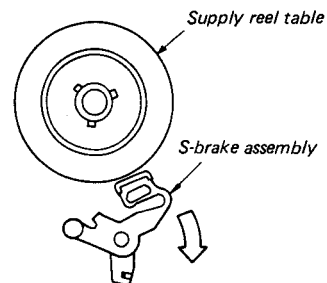

Fig. 1-3-34 S-brake assembly
Move the S-brake assembly in the direction shown by the arrow before removing the reel table. Take care not to touch the pad surface of the S-brake. (Fig. 1-3-34)
7. When reinstalling the S-reel table assembly, temporarily move the S-brake assembly in the direction shown by the arrow, using a tweezers. (Fig. 1-3-34)